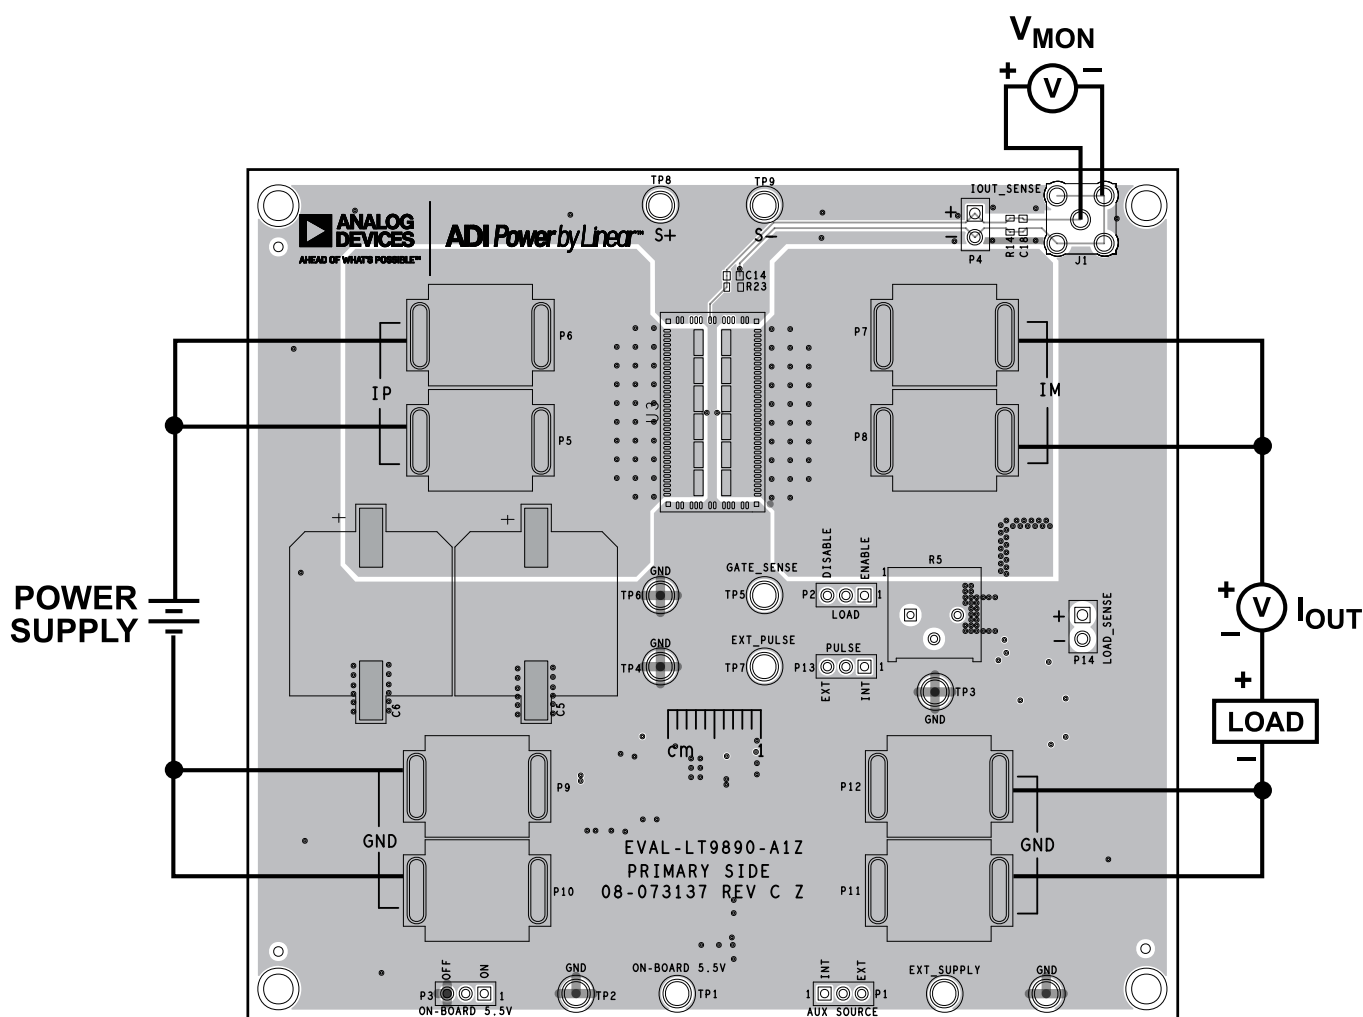

Figure 2. Proper Measurement Equipment Setup
Jumper settings on the EVAL-LT9890-A1Z evaluation board are detailed in Table 2, which lists the default configuration that must be in place to ensure correct operation. Also, see Figure 2.
8. Figure 2 displays a pictorial view of the EVAL-LT9890-A1Z with labeling.